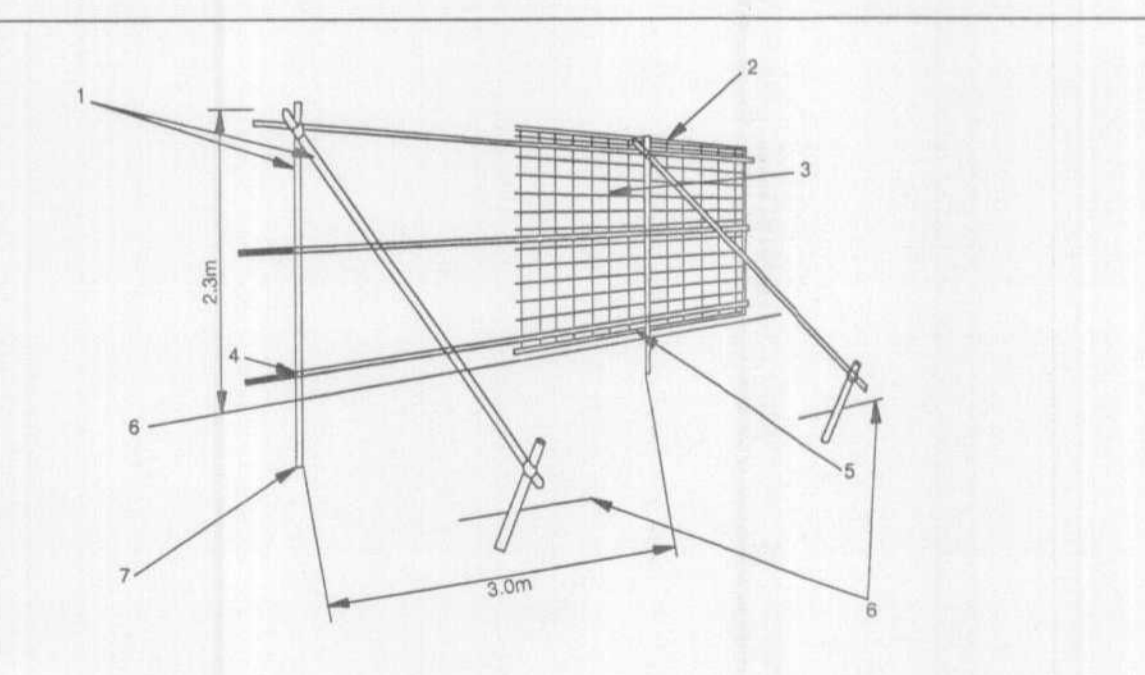

Figure 2 - Protective Barrier
- 2.4m high fencing as detail in Fig 2